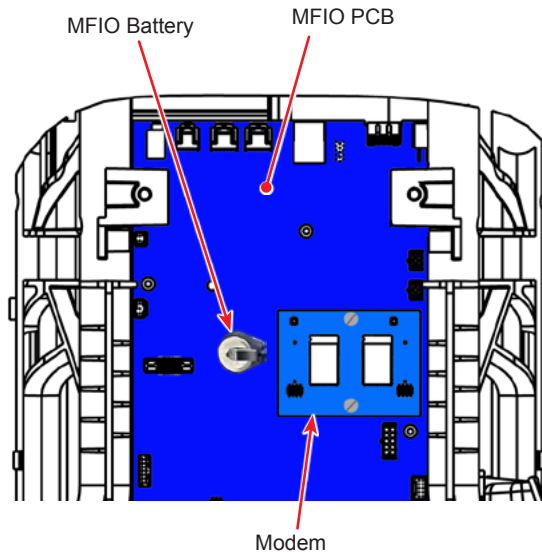

Figure 3-36 MFIO Modem Removal
- 32.5 Carefully remove two standard screws securing Modem PCB to MFIO PCB (see Figure 3-36).
- 33.4 Remove battery BT1 (CR 2032) from MFIO PCB by pulling clip away from battery, then sliding the battery forward. See Figure 3-36 for battery location.